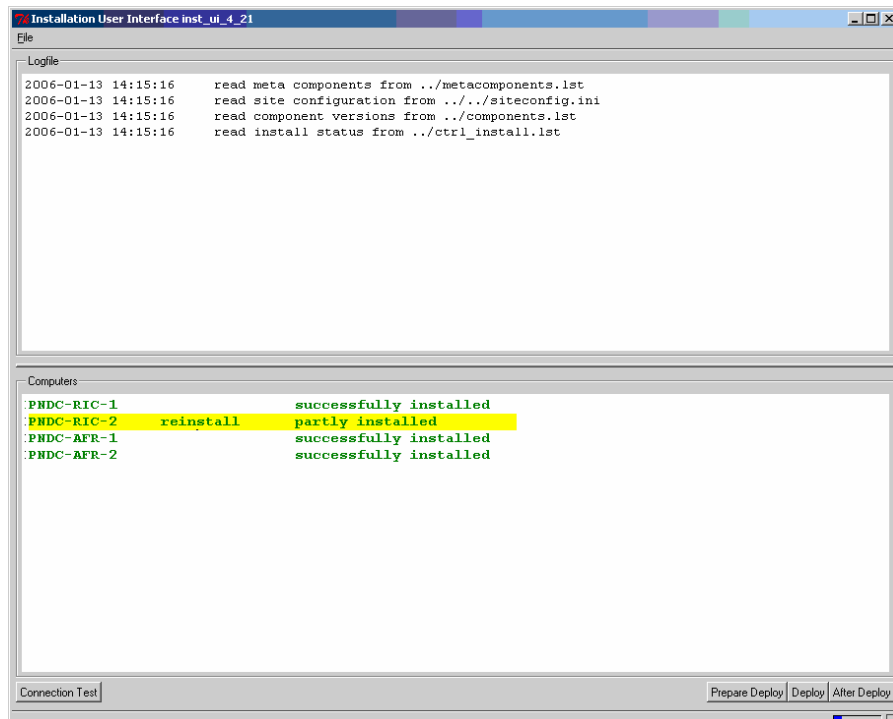

Figure 1-233. Install UI Showing RIC-2 Switch to Reinstall
2. Type the character **R**. The Install UI marks this computer as one to be reinstalled (Figure 1-233).